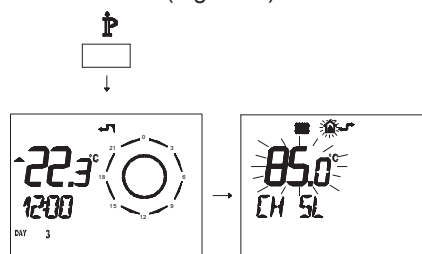

Fig. 8.12
- Press button  for more than 3 seconds to enter in **INFO** (Fig. 8.12) mode.